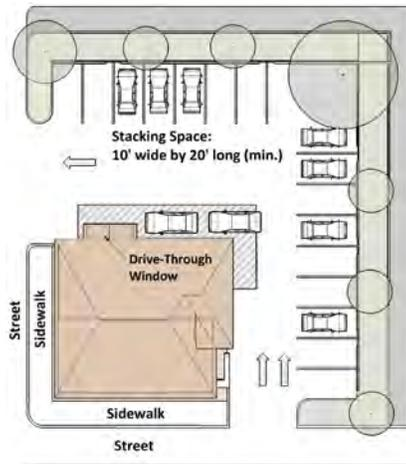

Figure 375.405.3
- (8) Drive-through vehicle stacking standards. The following standards apply to all properties with a drive-through facility designed for access from a vehicle (rather than a walk-up facility).
- (a) Stacking space requirements. Vehicle stacking spaces for drive-through facilities shall be provided to comply with Table 375.405.6 and Figure 375.405.3.